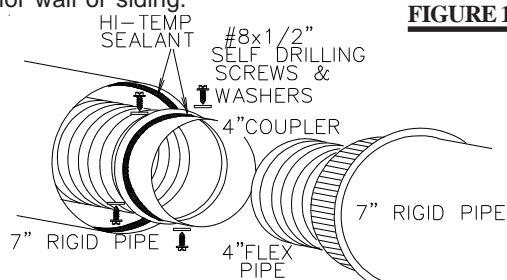

FIGURE 18
4. If more than one length of liner needs to be used to reach the stove, couple them together as illustrated in **FIGURE 18**. Seal the joints using the same procedure as described above.